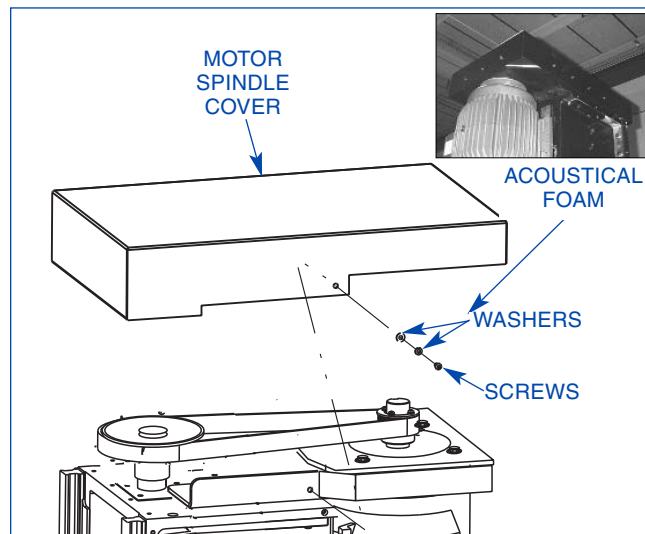

FIGURE 4-4, Motor Spindle Cover
1. Remove Screws and Washers securing Motor Spindle Cover, then remove Cover (*see Figure 4-4*).
1. Remove Upper Cover (*refer to Figure 4-4*).